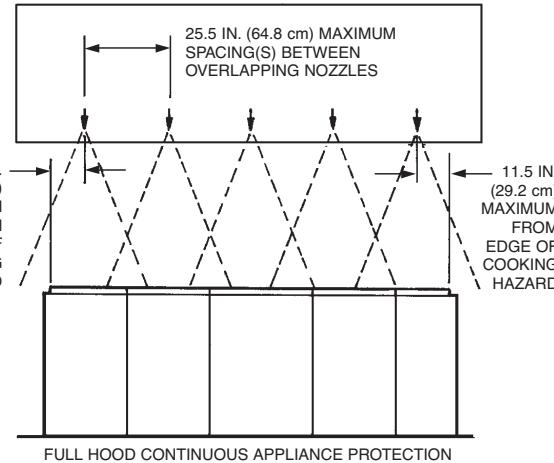
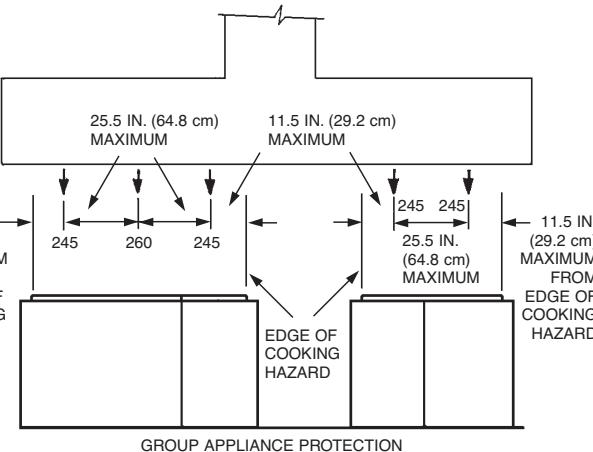

FIGURE 95
FIGURE 96
► See Figure 95 (full hood continuous protection) and Figure 96 (multiple group protection).
1. For each group of protected appliances under a common hood(s), the overlapping nozzles must be located from right to left so that each end nozzle is located a maximum of 11.5 in. (29.2 cm) inside the outside edge of the cooking hazard of each end appliance, and the inside overlapping nozzles must be located between the two end nozzles at a maximum spacing of 25.5 in. (64.8 cm). See Figures 95 and 96.